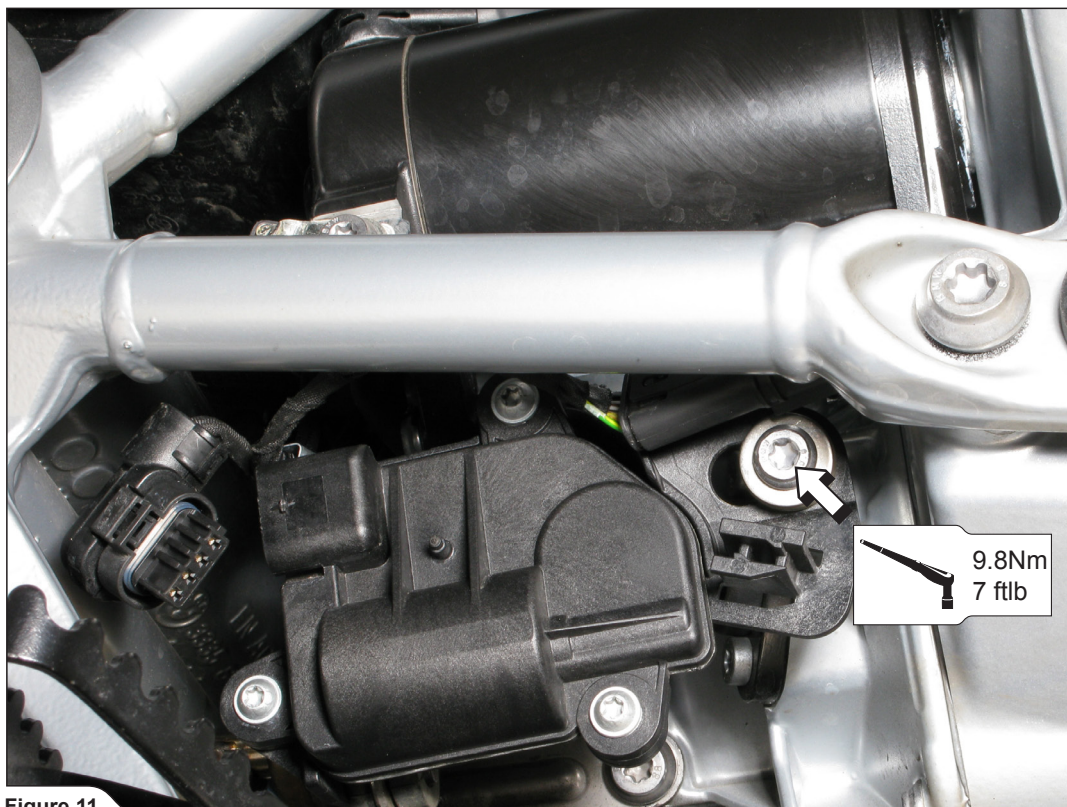

Figure 11
9. Reinstall the exhaust valve's servo, reconnect the servo's connector and hook the right cylinder's lambda connector back onto the servo's housing (Figure 11, 12).